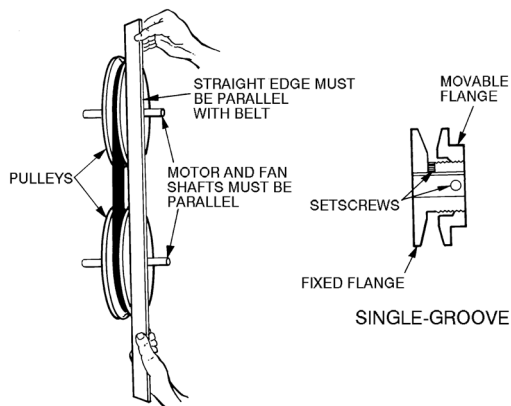

Fig. 14 — Fan Pulley Adjustments
3. Loosen movable pulley flange setscrew (Fig. 14).
Shut off unit power supply. Lock out power supply and tag disconnect locations. Loosen fan motor pulley setscrews and slide fan pulley along fan shaft. Make angular alignment by loosening motor from mounting bracket (see Fig. 14). Check alignment with a straightedge.